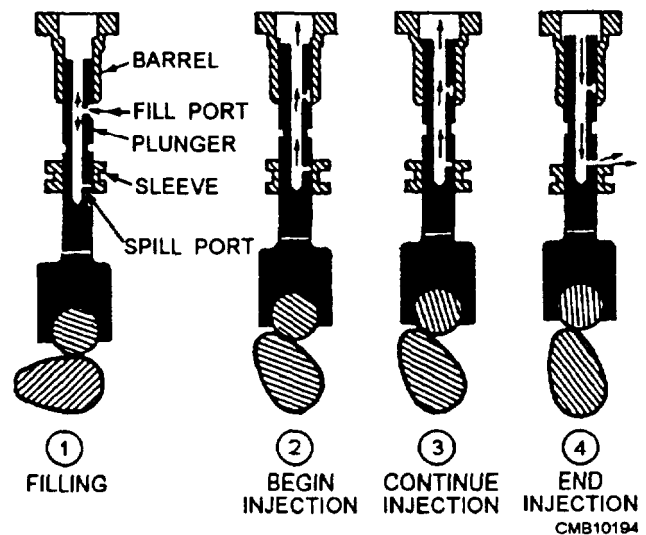

Figure 5-11.—Injection pump operating cycle.
- Since the injection pump is constantly filled with diesel from the transfer pump under pressure, any time the fill port is uncovered, the internal drilling of the plunger will be primed by the incoming fuel caused by the downward moving plunger relative to pump camshaft rotation (fig. 5-11).
- At the correct moment, the rotation of the pump cam lobe begins to force the plunger upward until the fill port is closed, as it passes into the barrel. At the same time the sleeve closes the spill port. The pump, line, and fuel valves are subjected to a buildup in fuel pressure and injection will begin (fig. 5-11).
- Injection of the fuel will continue as long as both the fill port and spill ports are completely covered by the barrel and sleeve (fig. 5-11).
- Injection ends the moment that the spill port starts to edge above the sleeve, releasing the pressure in the plunger and letting fuel escape from the pump back into the housing. Also, at the end of the stroke, the check valve closes to prevent the fuel from flowing back from the injector fuel line (fig. 5-11).